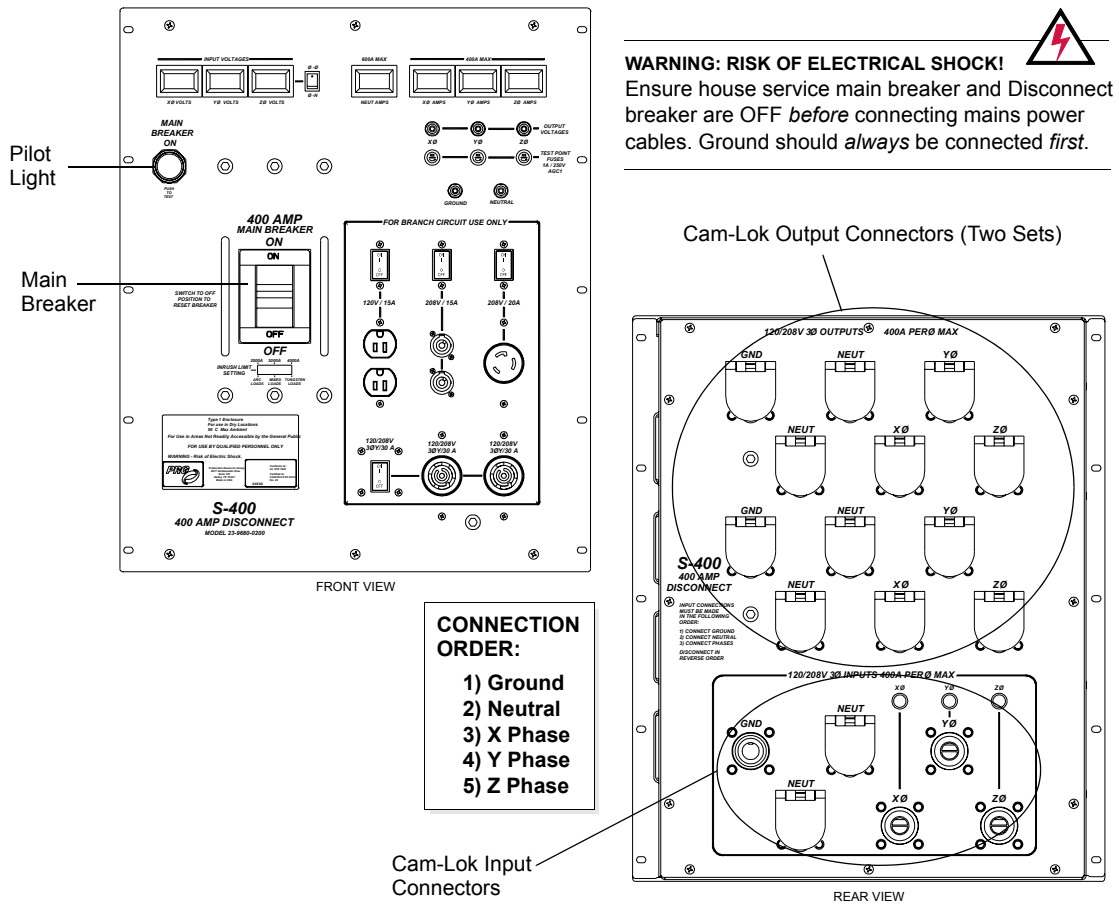

Figure 4: Turning Off Main Breaker and Connecting Cam-Loks
- Step 5. Ensure that Main Breaker is switched OFF (**Figure 4**).
- Step 4. If meter readings are nominal, switch Main Breaker to the ON position (**Figure 4**).
**Note:** The Pilot Light indicates when Main Breaker is energized (**Figure 4**). Press to test LED before Main Breaker is "ON."